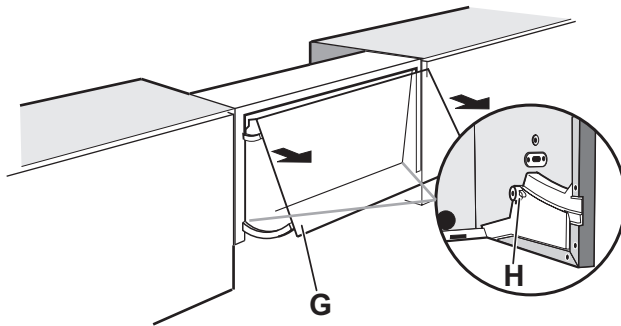

Fig. 13
- Take off the visor **G.** **Fig. 13.**
- Refit the visor. **Fig. 13.**
- Take off the visor **G** by turning the rear locking knobs **H**. **Fig. 13**.
- Turn the rear unlocking knobs **H** so to avoid the visor take off. **Fig. 13**.